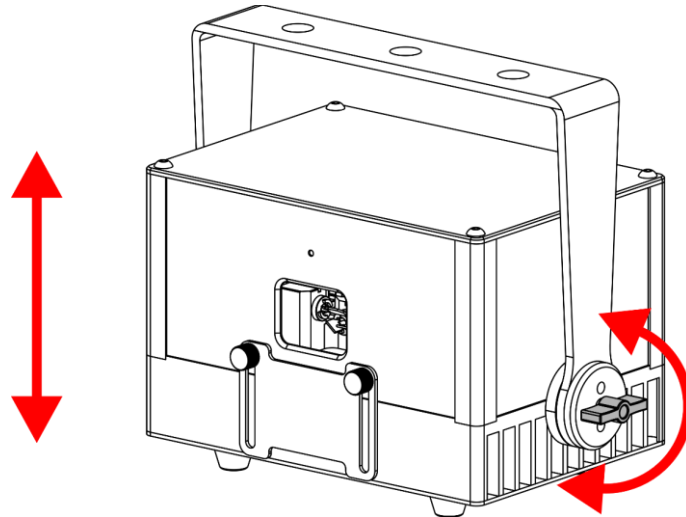

Fig. 12
- 03) Turn the **adjustment screws (02)** counterclockwise to release them.
- 04) Tilt the device at the desired angle (see Fig. 12).
- 05) Turn the **adjustment screws (02)** clockwise to tighten them. Make sure that the device cannot move freely after the **adjustment screws (02)** are tightened.